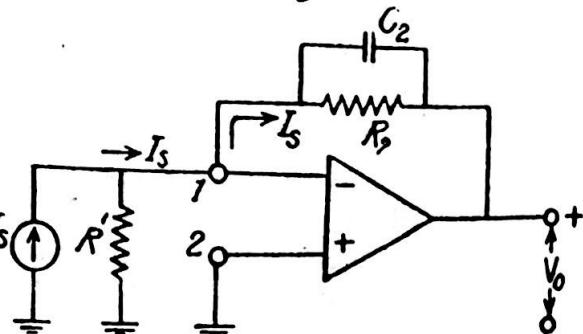

Fig. 20. Current to voltage converter.
(4) **CURRENT TO VOLTAGE CONVERTER** : Circuit is shown in fig. 20. In this circuit output voltage is proportional to the input current. As there is virtual ground at the input terminals, current in R' is zero and input current, I_S , flows through feedback resistor R_2 . Output voltage is given by